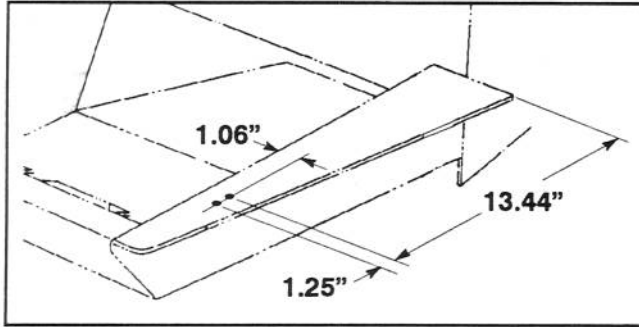

Figure 6
6. Using dimensions shown in figure 6, locate, mark and drill (2) .406" dia. holes in left footrest of traction unit. Holes may be already drilled in footrest.